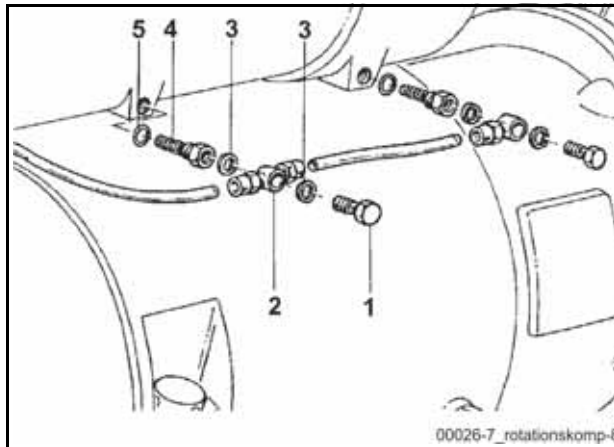

Fig. 352 Oil return valves
- Loosen the hollow screws **(1)** (**Fig. 352**).